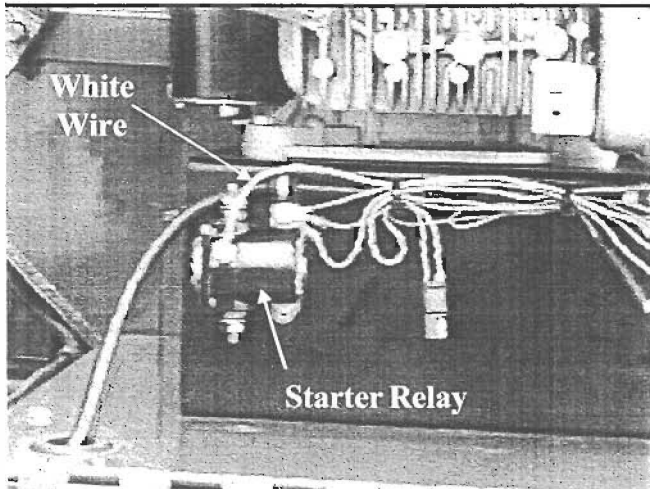

*Figure 18*
2. Mount the starter relay to the engine mount using two 1/4-20 cap screws, external tooth lock washers, and nuts. Connect the two green wires, the spreader harness, #6 clamp loop, and the clutch ground wire to the upper starter relay mounting bolt. See Figure 18.